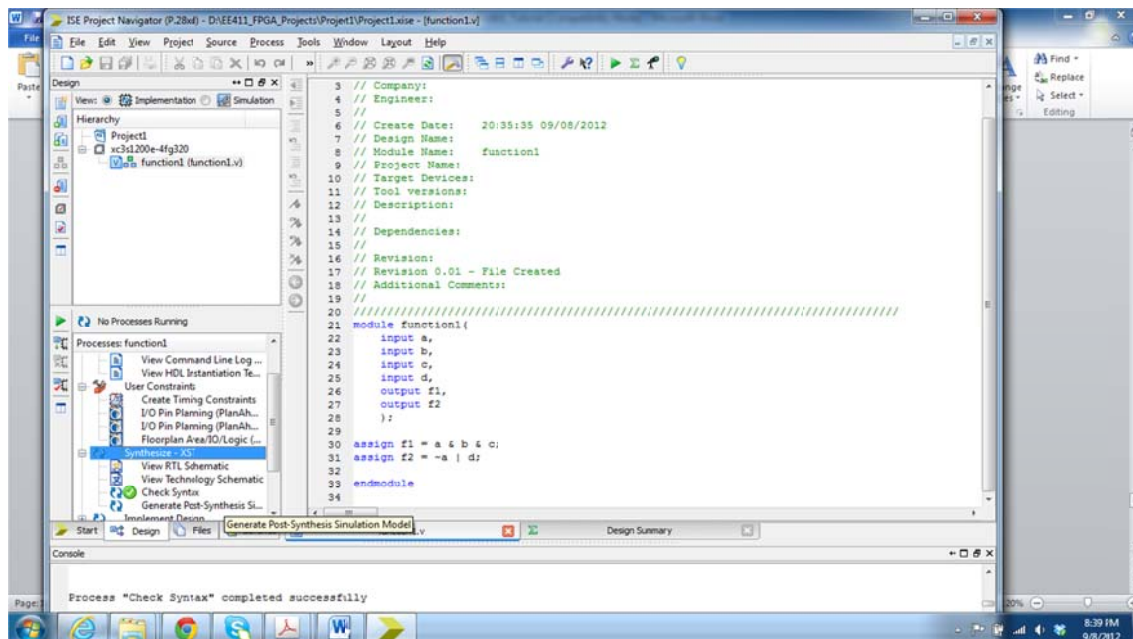

Figure 6B
- Now you need to check your code syntax for errors. While choosing the Verilog module "function1.v", expand the **Synthesize-XST** menu in the **Processes** window as shown in Figure 6B, then double click on **Check Syntax**. A check will appear if your code is error free.